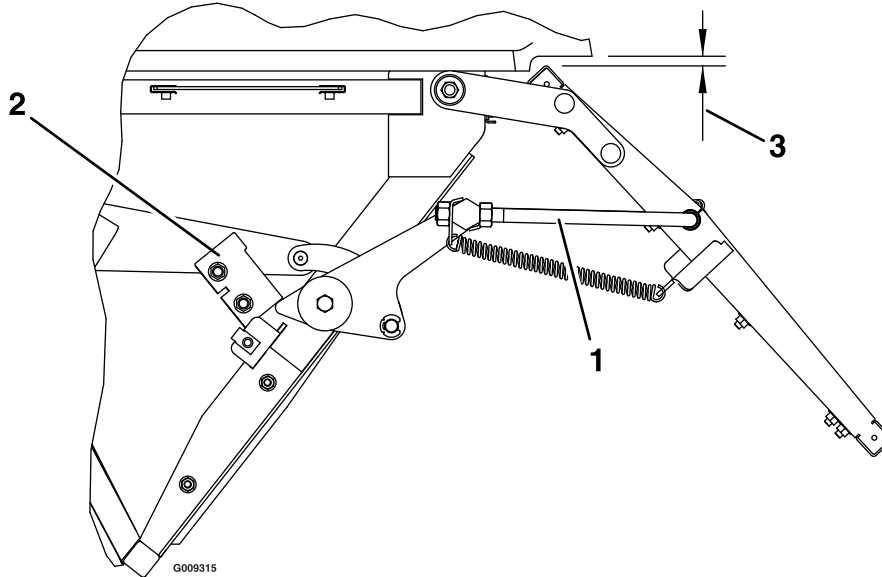

Figure 29
1. If the door does not close properly adjust the rods as shown in Figure 29.
Adjust the position of the stops (see Figure 29) so that the door link contacts them when the upper tube of the door frame is within $1/4$ inch (6.35 mm) \pm $1/8$ (3.2 mm) from the lower lip of the molded hood.